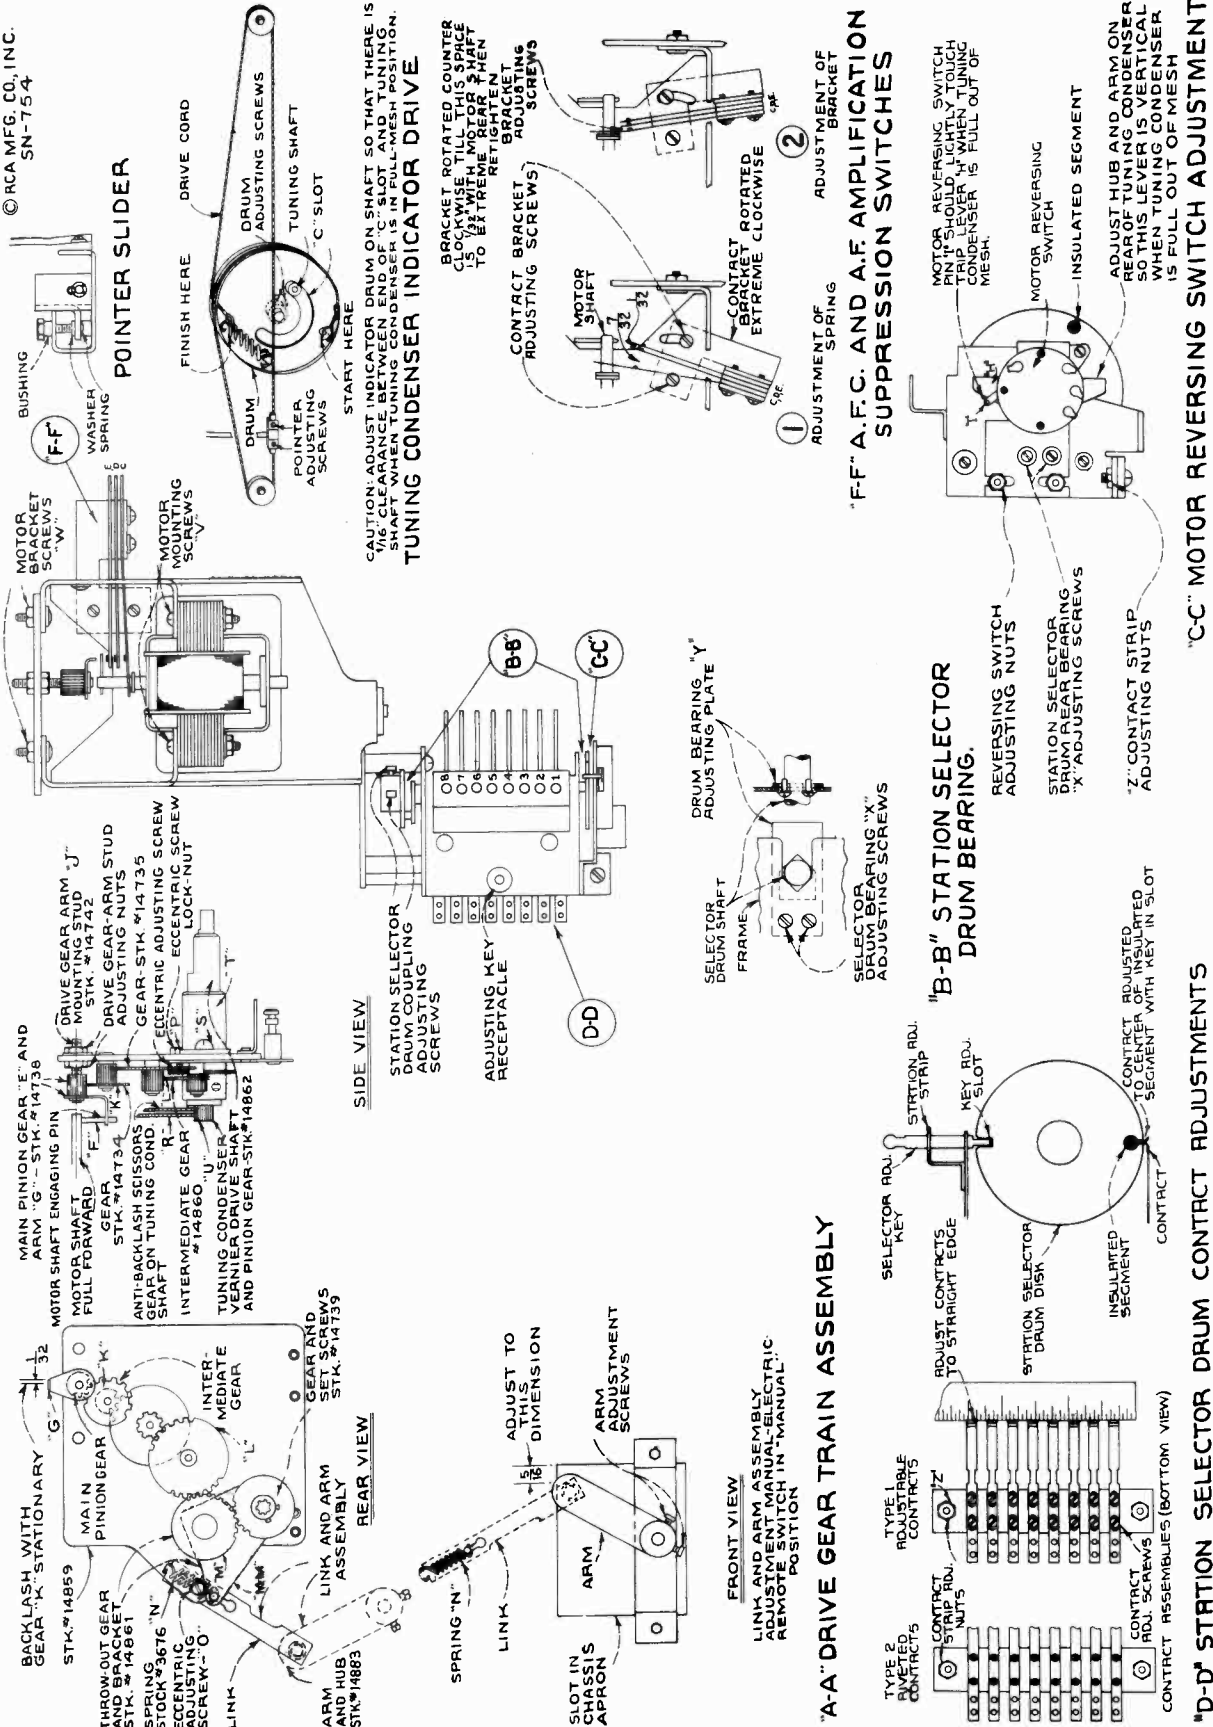

Figure 4—"Electric Tuning" Mechanism Adjustments
The electric tuning mechanism is designed to be as simple in construction and as fool proof in operation as is possible. In order to maintain the accurate results possible with this device care must be taken in effecting any repairs or adjustments. Reference should be made to figure 4 and the following:
Station Selector Drum.—(1) Bearing Adjustment—The selector drum may be removed by unscrewing the two bearing adjusting screws "X" on the front and rear bearings and sliding shaft out of slots on frame. To replace drum, the reverse procedure should be followed holding bearing adjusting plates "Y" firmly against the shaft and tightening adjusting screws. (2) Contact adjustment—Two types of contact strips are used. They are designated on figure 4, as types 1 and 2, on which the individual contacts are respectively adjustable and fixed. On type 1, the individual contacts should be adjusted by setting the end contact springs near the mid-position of their travel and aligning the remaining springs to them by means of a straight edge. Either type of contact strip should be adjusted to the selector drum by firmly placing two selector adjusting keys in the station adjustment strip, positions 1 and 8 (locking respective discs), loosening contact strip adjusting nuts "Z," and shifting the contact strip until the end contacts are exactly centered on the respective disc insulating segments. More accurate adjustment may be made by silhouetting the point of contact with a piece of white paper held behind the contact. Adjustment will be facilitated by removing complete assembly from rear of tuning condenser by unscrewing the three mounting screws. Contacts and discs must be kept free of dirt, filings, and other extraneous matter.